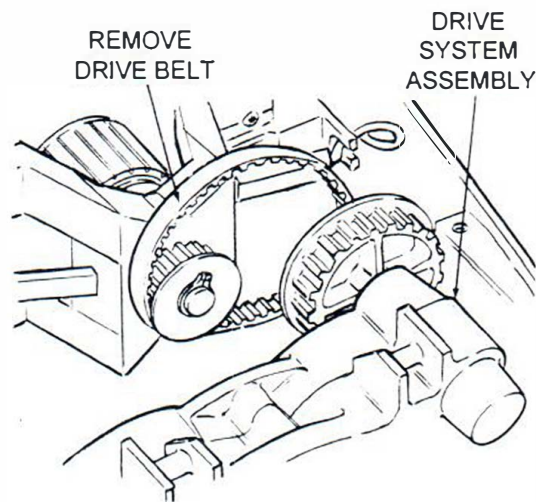

Figure 16. Drive Belt and Drive System Assembly Removal
- F. While supporting drive system assembly, turn the power unit over. Position power unit as shown in Figure 16.